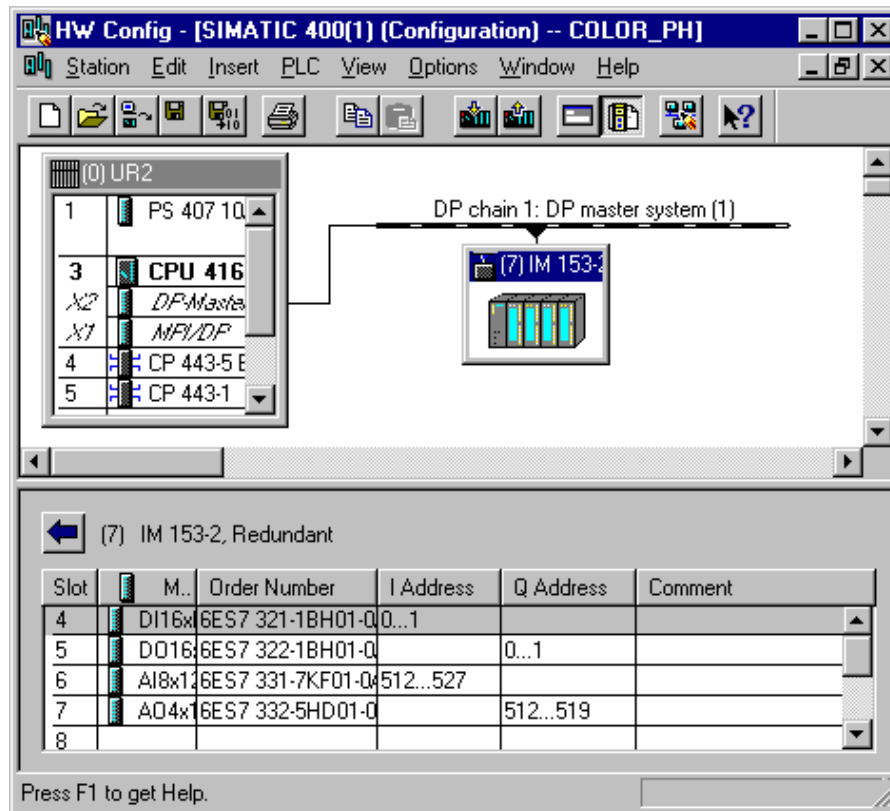

Figure 4-10 Input and Output Modules in Hardware Configuration
3. In the upper half of HW Config, you can select objects (racks, DP slaves) that then appear in detail in the bottom half (see Figure 4-10).